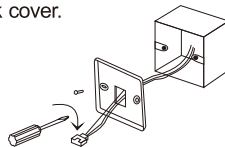

Fig.3
3. As shown in Fig.3, fix $\phi 4 * 20\text{mm}$ screws provided together with the back cover on 86 box, then pass lead wires through the back cover.